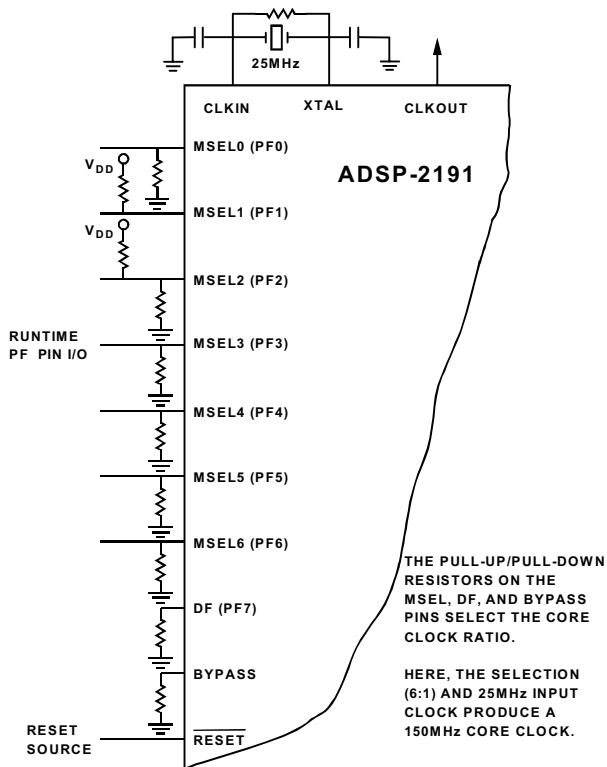

Figure 5. External Crystal Connections
The ADSP-2191 can be clocked by a crystal oscillator or a buffered, shaped clock derived from an external clock oscillator. If a crystal oscillator is used, the crystal should be connected across the CLKIN and XTAL pins, with two capacitors connected as shown in Figure 5. Capacitor values are dependent on crystal type and should be specified by the crystal manufacturer. A parallel-resonant, fundamental frequency, microprocessor-grade crystal should be used for this configuration.
The DSP provides a user-programmable  $1 \times$  to  $32 \times$  multiplication of the input clock, including some fractional values, to support 128 external to internal (DSP core) clock ratios. The MSEL6–0, BYPASS, and DF pins decide the PLL multiplication factor at reset. At runtime, the multiplication factor can be controlled in software. To support input clocks greater than 100 MHz, the PLL uses an additional input: the Divide Frequency (DF) pin. If the input clock is greater than 100 MHz, DF must be high. If the input clock is less than 100 MHz, DF must be low. The combination of pullup and pull-down resistors in Figure 5 set up a core clock ratio of 6:1, which produces a 150 MHz core clock from the 25 MHz input. For other clock multiplier settings, see the *ADSP-219x/2191 DSP Hardware Reference*.